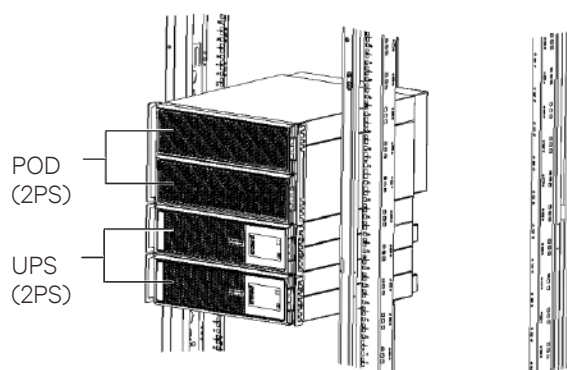

Figure 3-1 1 + 1 parallel system installation (without battery module, 16kVA/20kVA)
2. As shown in Figure 3-1, the UPS should be installed at the bottom; and the 1 + 1 parallel POD should be installed on the top to facilitate the cable connection and operation. The installation method of 1 + 1 parallel POD is the same as that of the UPS.